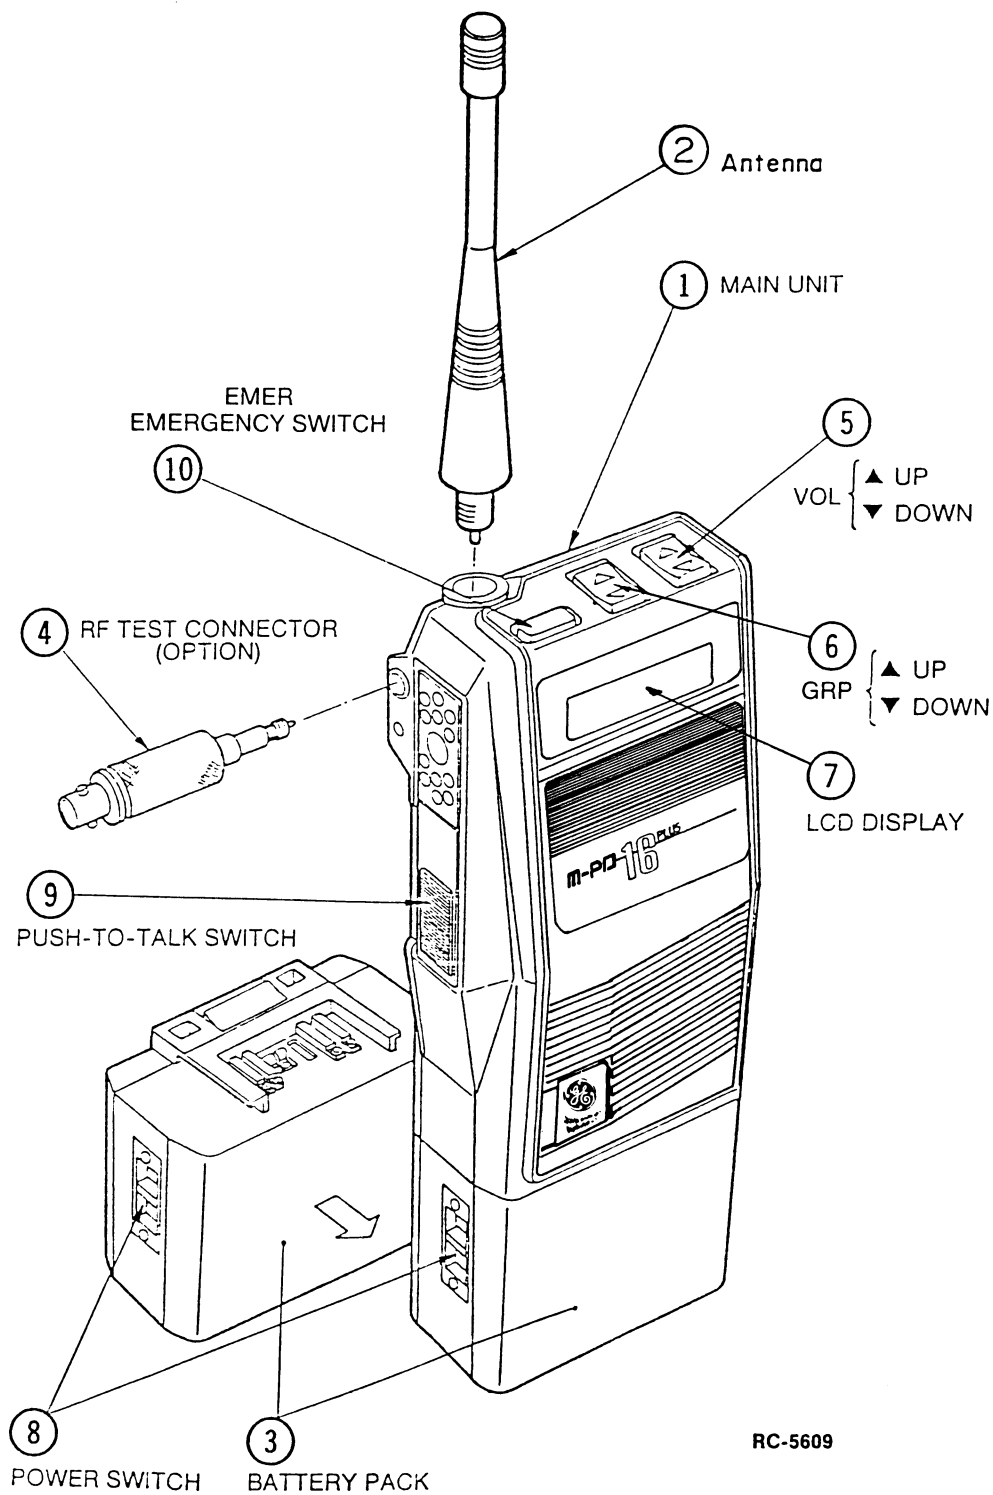

Figure 1 - M-PD 16 PLUS Operating Controls and Accessories
Assemble these parts into one unit according to the following procedure and as shown in Figure 1 - M-PD 16 PLUS Operating Controls and Accessories.
1. Screw the antenna ② or the RF test connector ④ in its receptacle. A clockwise turn will insert the antenna or RF test connector, while a counter-clockwise turn will remove them.
2. Slide the battery pack along the bottom of the M-PD main unit from the arrow-marked direction, shown in Figure 1, until the battery locks into place.
Operating Procedure (Refer to Figure 1)To Receive a Message: